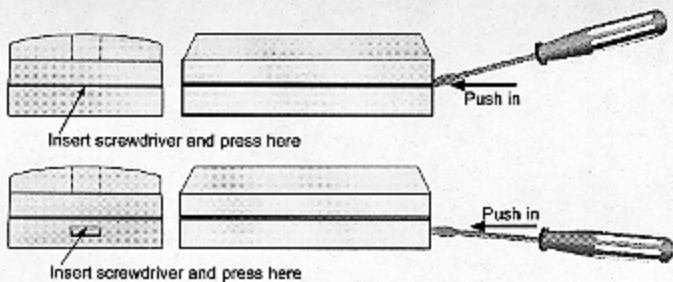

Figure 3 - Opening the Point Transmitter
- Depending on which case your Transmitter comes with (see Figure 3), open the Transmitter Cover by inserting a small flat-blade screwdriver into the slot at the end of the Transmitter. Press in with the screwdriver until the Latch opens.